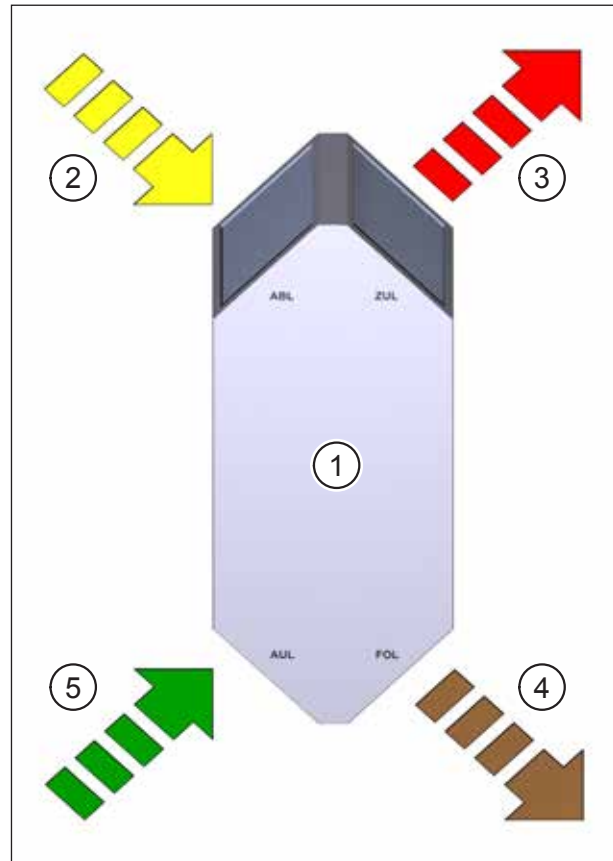

Fig. 11: How the cross-counterflow plate heat exchanger works
The channels on the cross-counterflow plate heat exchanger (item 1 in Fig. 11) are designed so that the air flows move in opposite directions. This guarantees the greatest possible exchange of thermal energy.
In the winter, the highly thermally conductive plates transfer the heat from the extract air flow (item 2 in Fig. 11) to the supply air flow (item 3 in Fig. 11). The cooled extract air is carried to the outside as exhaust air (item 4 in Fig. 11).